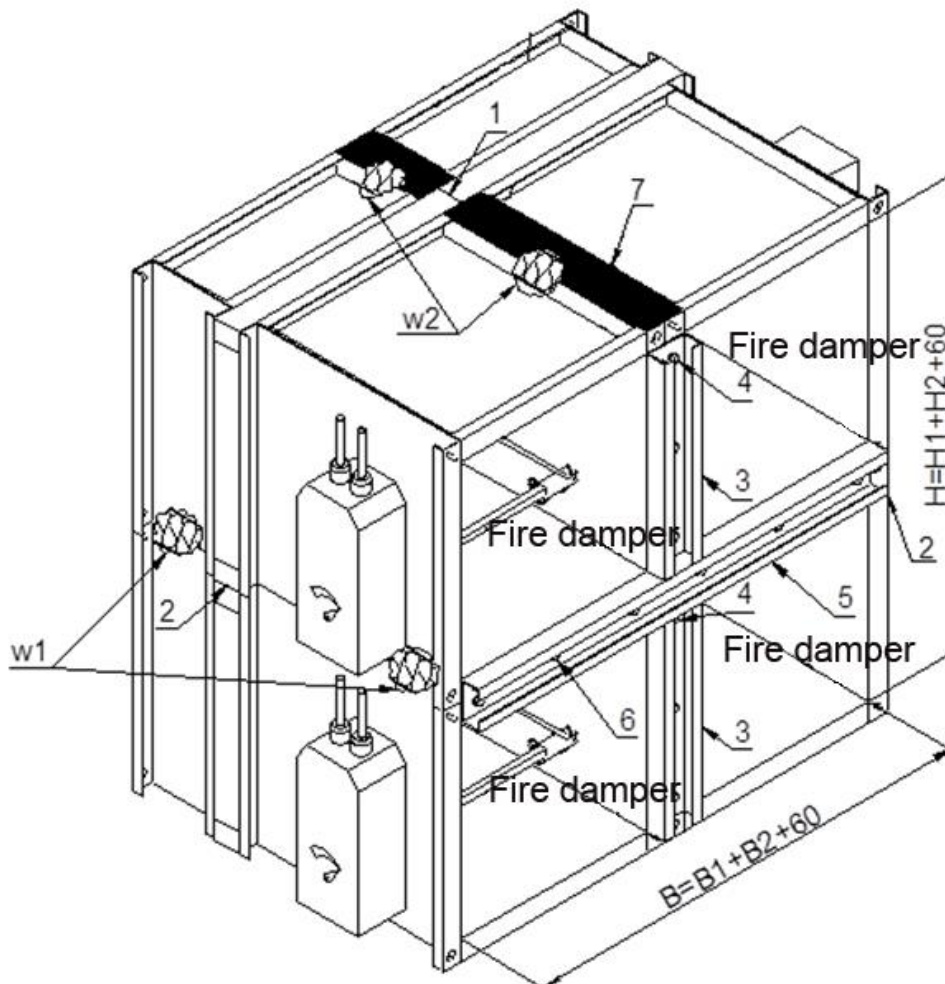

Figure 5. Arrangement 4 – battery consisting of four fire dampers KWP
**Arrangement 4 – battery consisting of four fire dampers KWP (Figure 5).**
1. Fix the gasket on insulating spacer of one of adjoining fire dampers (position (1) in the Figure 5).
2. Set together the sides of fire damper A and the fire damper B (where the gasket was fixed) and assemble them together on the front and back with use of perforated assembly strips (3) and self-tapping screws M6x16 (4), which should be tightened into the openings in fire damper body. In order to carry out the correct assembly, 4 self-tapping screws should be used per each assembly strip with length of 1200 [mm].